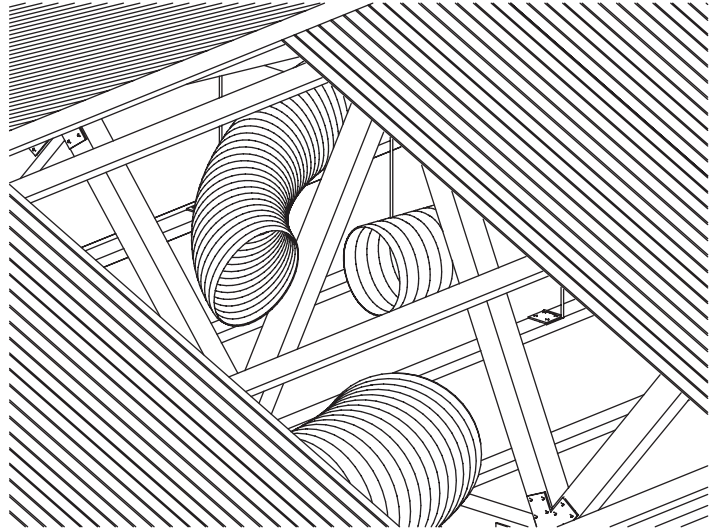

Fig. 1
- Pick a desired location for your new install. Preferably in the centre of the roof at the back of the house, close to the ridge cap as shown in Fig.1 or as per cooler instruction manual.